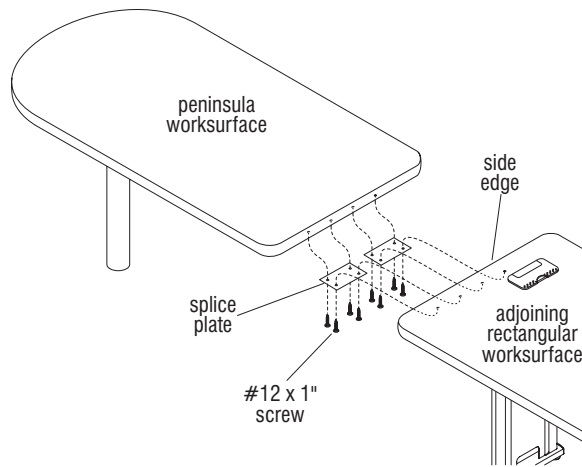

Figure 2
3. Carefully set the peninsula worksurface into position on the splice plates. Align the mounting holes and secure the peninsula to the worksurface from underneath with four #12 x 1" screws, two per splice plate (Figure 2).